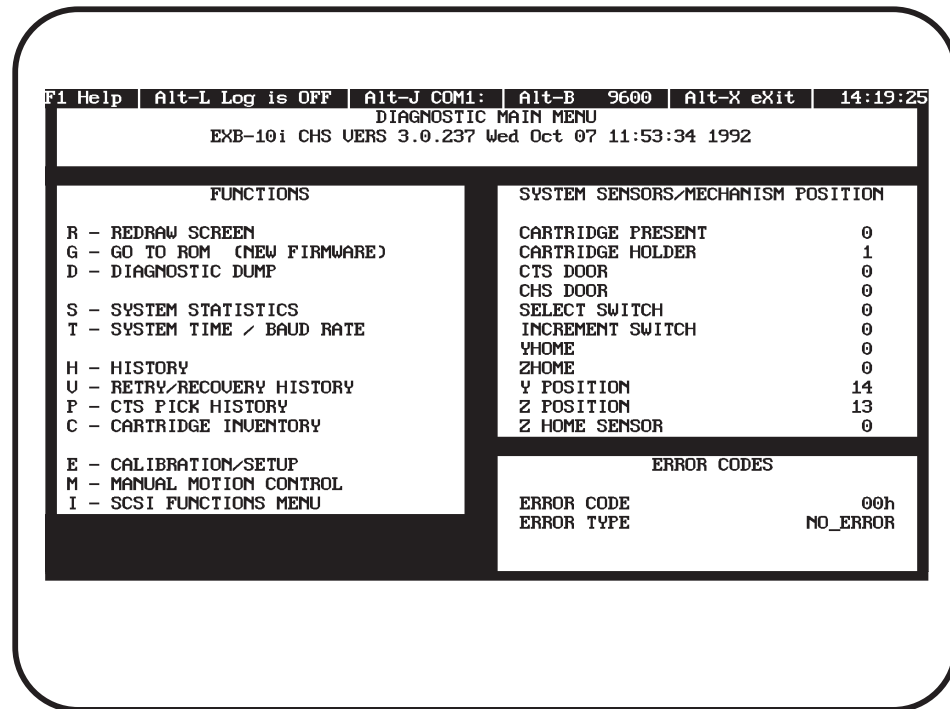

Figure 5-2 Diagnostic Main Menu (for the EXB-10i code level 3.0)
6. If a menu other than the Diagnostic Main Menu appears (shown in Figure 5-2), press **Q** to exit from the current menu and display the Diagnostic Main Menu.
This section describes the menus and windows on the Diagnostic Main Menu, shown in Figure 5-2 below.
**Notes:** Figure 5-2 shows an example of the EXB-10i's Diagnostic Main Menu, code level 3.0. For code level 3.1, the MANUAL MOTION CONTROL selection is replaced by the DIAGNOSTIC FUNCTIONS selection.